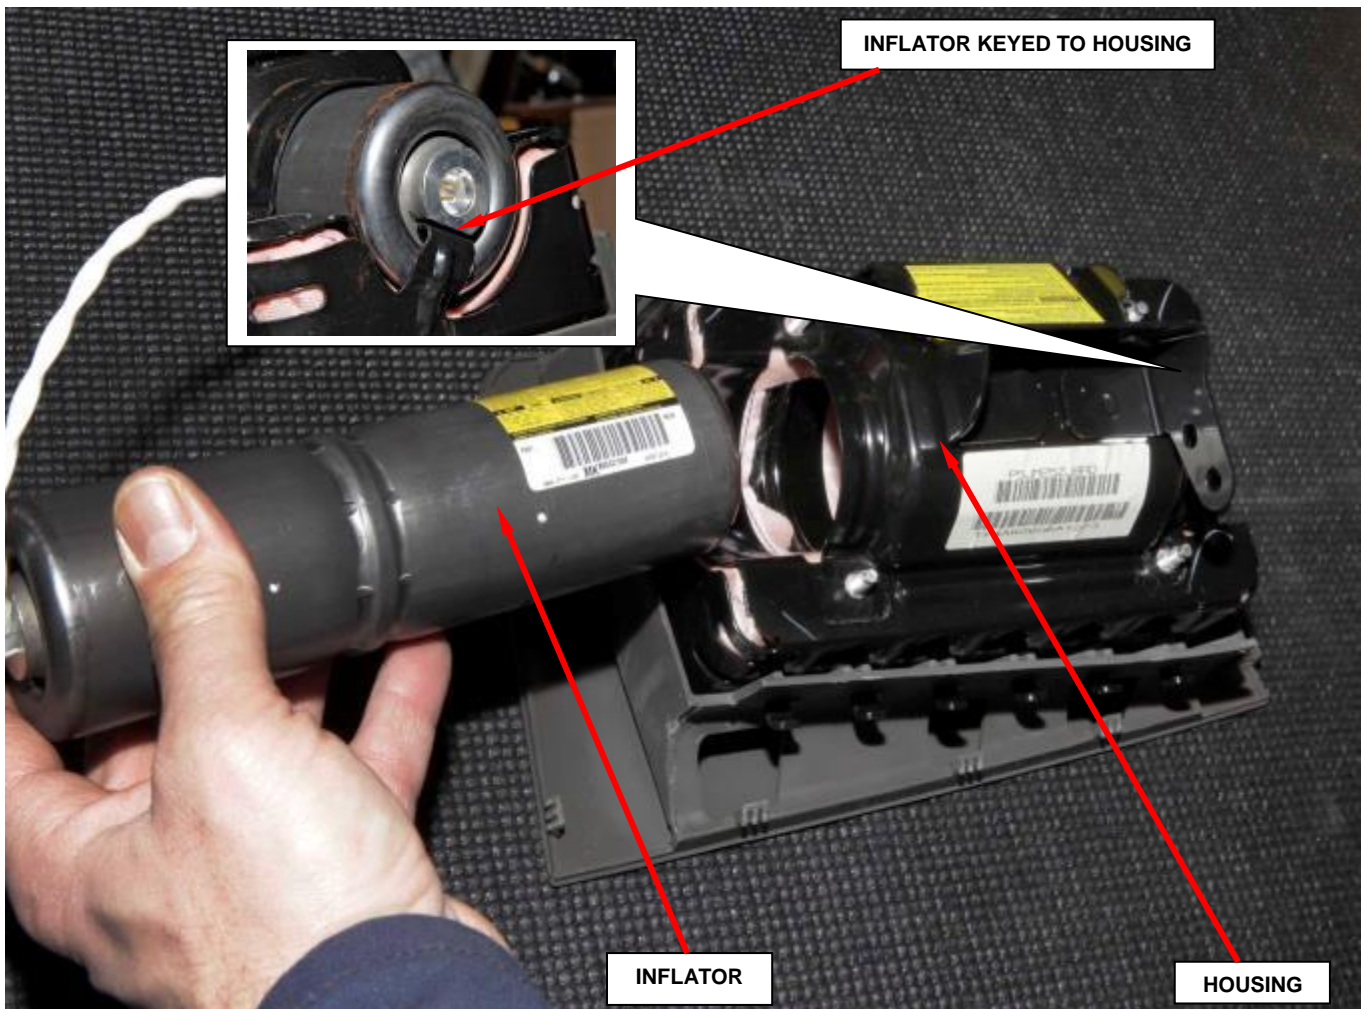

Figure 30 – Inflator Installation
NOTE: The inflator’s key MUST line up with the housing’s key (Figure 30).
- o. Slide the **new** inflator into the housing (Figure 30).